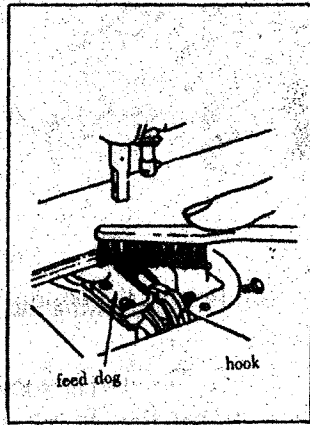

Fig. 39
1) Cleaning the feed dog (Fig. 39)